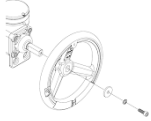

Figure 1
- a. Slide fixing screw through washers and handwheel and secure them to override shaft as shown in the figure below (figure 1).